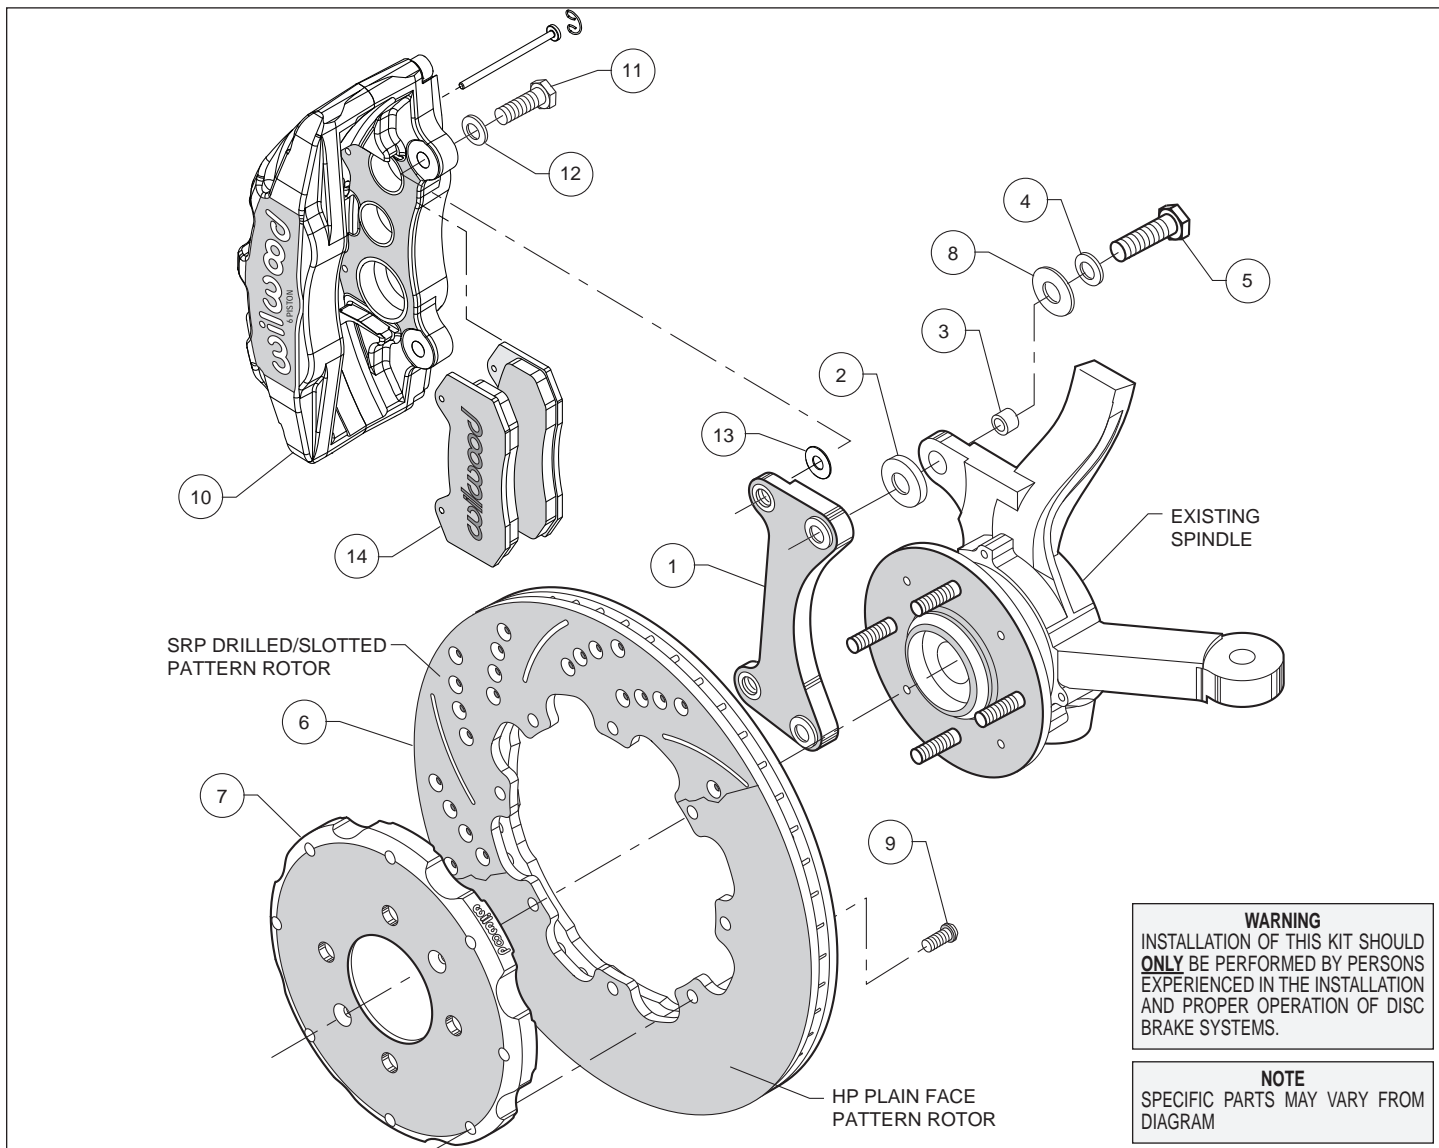

Figure 1. Typical Installation Configuration, Left Hand Application Shown
- Insert one sleeve (3) each into the holes on the top and bottom of the spindle “ears” where the OEM caliper bracket was removed. Apply red *Loctite*® 271 to the mounting bolt threads (5) before installation of the caliper mounting bracket (1). Install the bracket with the flanged heads of the clinch nuts facing outboard, as shown in Figure 1. Slide bolt (5) through washer (4) and shim (8) into the previously installed sleeve (3) from the backside of the spindle. Position .125 thick spacer (2) between the spindle and the bracket. Torque bolts to 60 ft-lb.
- With the larger I.D. side of the rotor (6) facing away from the hat (7), attach rotor (6) to hat (7) using bolts (9) as shown in Figure 1. Using an alternating sequence, remove bolts one at a time, apply red *Loctite*® 271 to the threads, and torque to 25 ft-lb.
- Remove the two pad retaining pins from the caliper (10) by carefully popping out the pin retaining clips and sliding out the pins. Insert the brake pads (14) into the caliper from the bottom, Figure 1, with the friction material facing the rotor. Secure the brake pads in place with the pad retaining pins and clips. Reinstall the caliper onto the caliper mounting bracket. Apply red *Loctite*® 271 to bolt threads (11), and torque to 40 ft-lb.